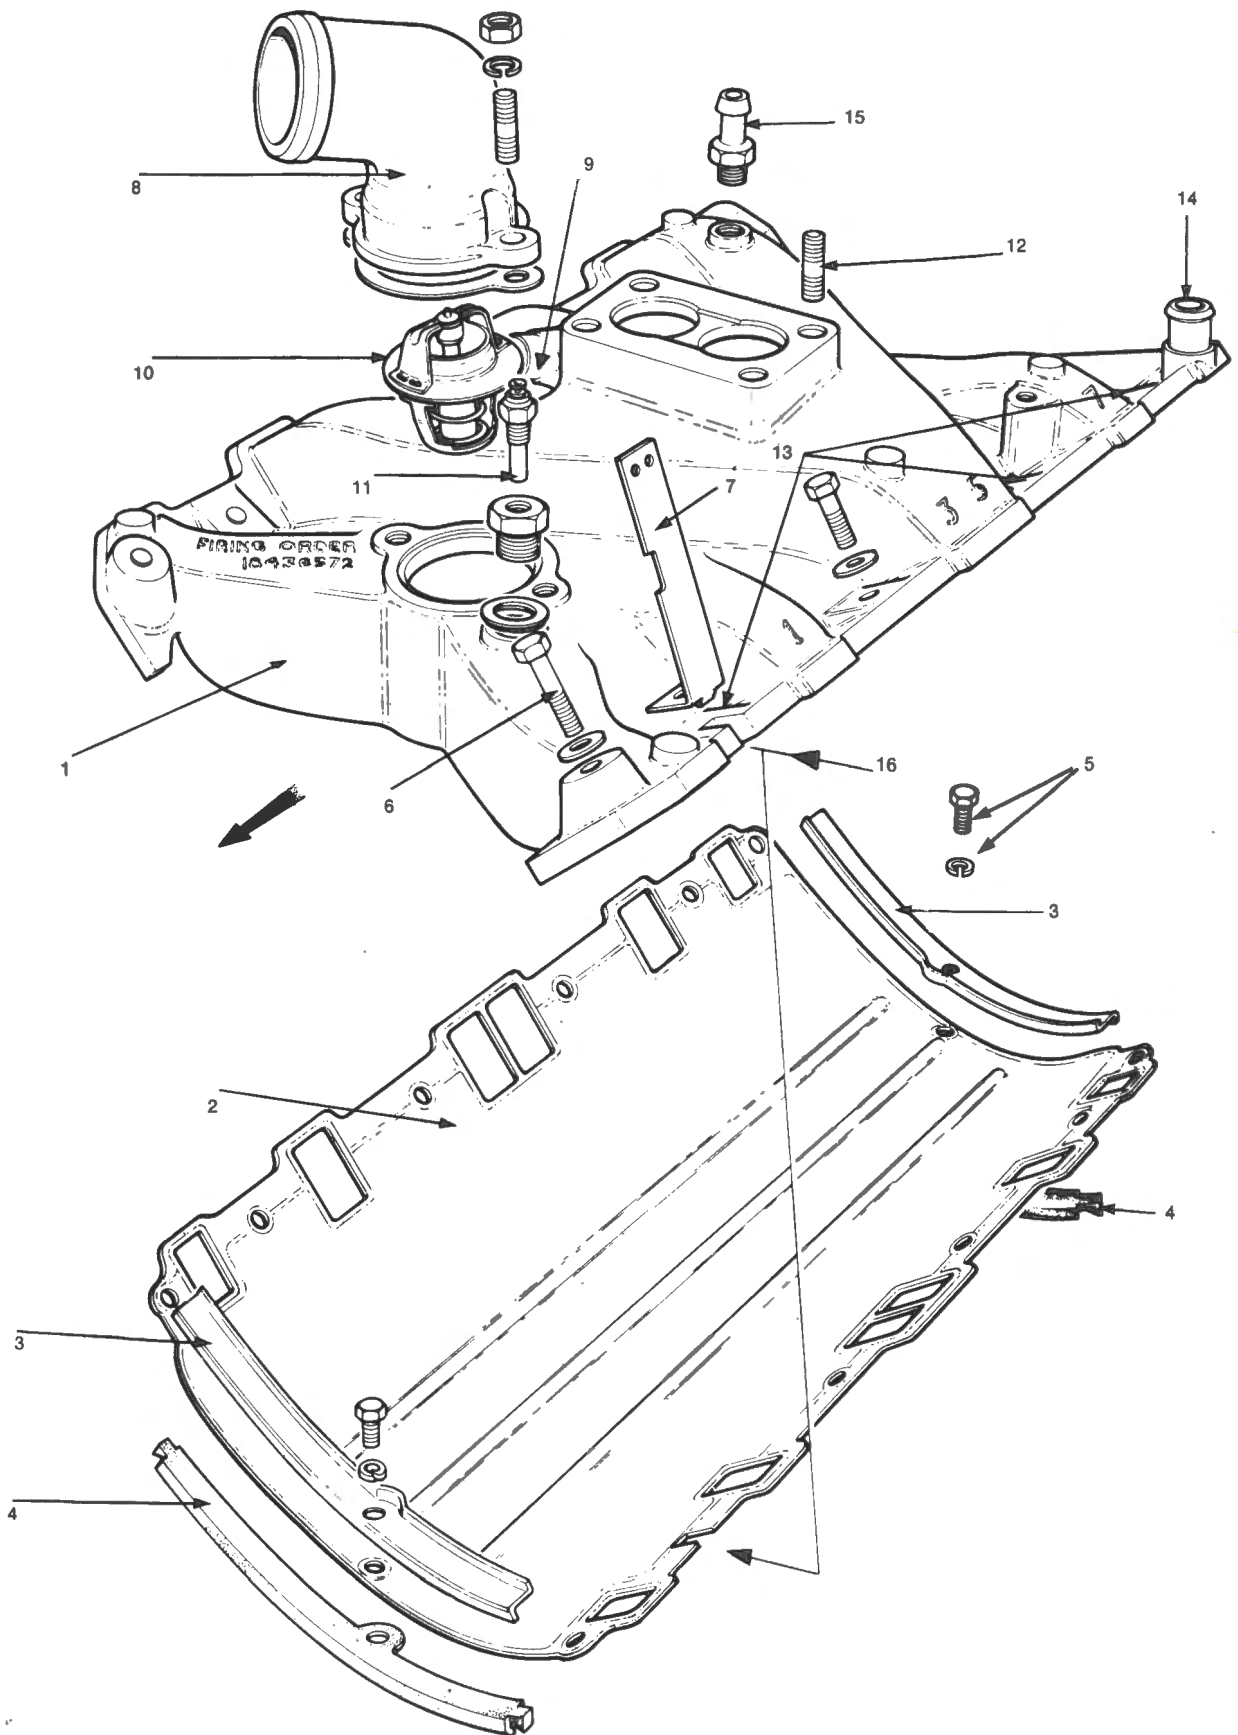

Fig. D-32
- 15 Ensure there is no coolant lying on the manifold gasket, then remove the 2 ¼ U.N.C. screws securing the gasket clamp Fig. D-32 & 33.
- 3 Place the induction manifold gasket in position so that the locating slot is toward the "front" of the left hand head, 'A' Fig. D-32.
- 6 Check to ensure that the manifold and gasket clamps are properly positioned and fit all the bolts to the cylinder head, using a little thread lubricant/sealant, the two longer bolts are installed at the front (Refer 16 Fig. D-32), and the bracket for the throttle return spring is located under the second bolt from the front on left hand head.
KEY TO FIG. D-32